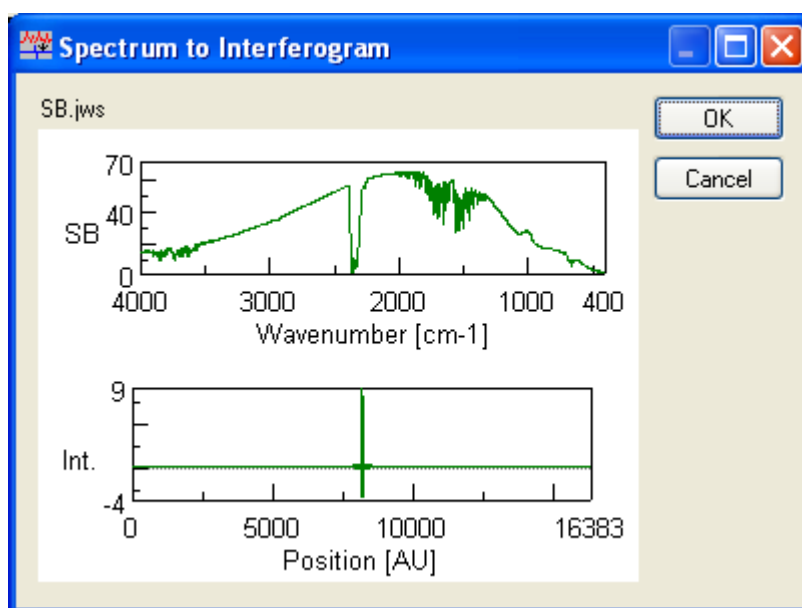

Figure 3.64 [Spectrum to Interferogram] dialog box
This option converts a single-beam spectrum (Single) into an interferogram (IF). (Fig. 3.64) There are no parameters to be set for this dialog box.